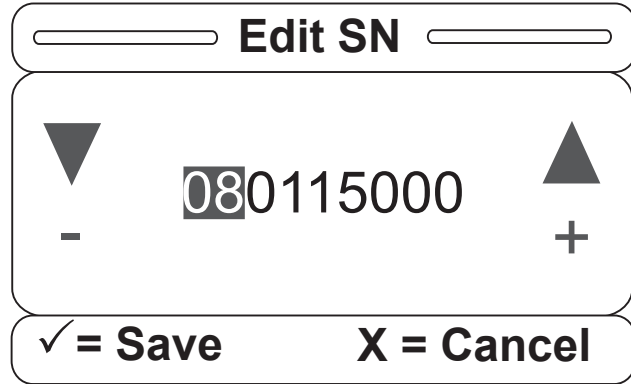

Figure S-25
25. If the Edit SN item is selected, the screen in Figure S-25 will be displayed to the user.